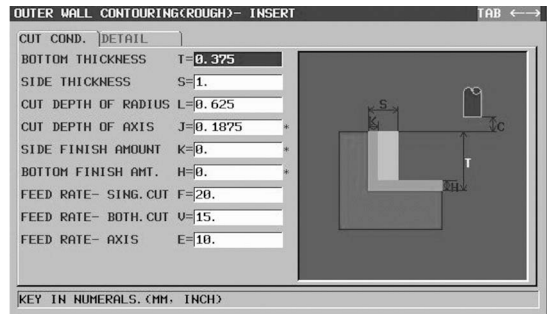
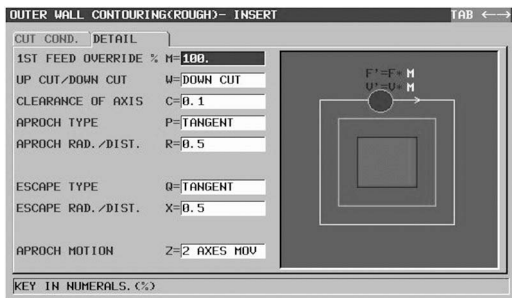

Figure 7-54 OUTER WALL CUT
Figure 7-55 OUTER WALL
- In the OUTER WALL CONTOURING (ROUGH) dialog complete the CUT CONDITIONS tab, as shown in Figure 7-54, and the DETAIL tab, as shown in Figure 7-55. Press the INSERT soft key when complete.